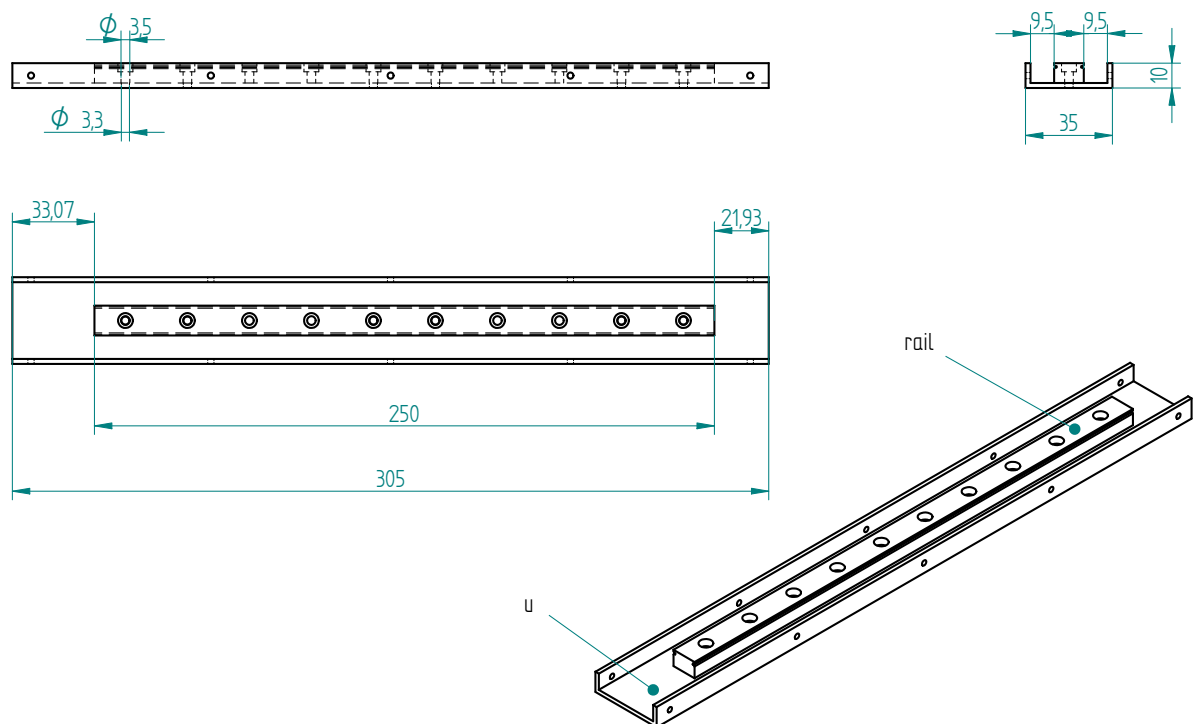

Figure 1.5: Center punch the 3.3 mm hole through the **rail** using a **3.5 mm** drill bit
7. clamp the **rail** in the correct position using a **gauge** (make sure it's centered), see Figure 1.5, page 19 ;